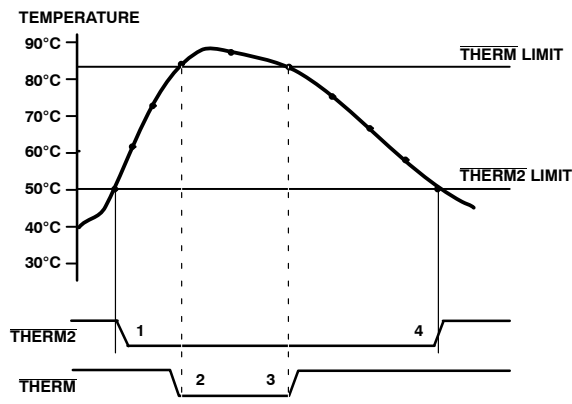

**Figure 19. Operation of the  $\overline{\text{ALERT}}$  and  $\overline{\text{THERM}}$  Interrupts**
Figure 19 shows how the  $\overline{\text{THERM}}$  and  $\overline{\text{ALERT}}$  outputs operate. A user may wish to use the  $\overline{\text{ALERT}}$  output as a  $\text{SMBALERT}$  to signal to the host via the SMBus that the temperature has risen. The user could use the  $\overline{\text{THERM}}$  output to turn on a fan to cool the system, if the temperature continues to increase. This method would ensure that there is a fail-safe mechanism to cool the system, without the need for host intervention.
- The  $\overline{\text{THERM}}$  output de-asserts (goes high) when the temperature falls to  $\overline{\text{THERM}}$  limit minus hysteresis. In Figure 19, the default hysteresis value of  $10^{\circ}\text{C}$  is shown.